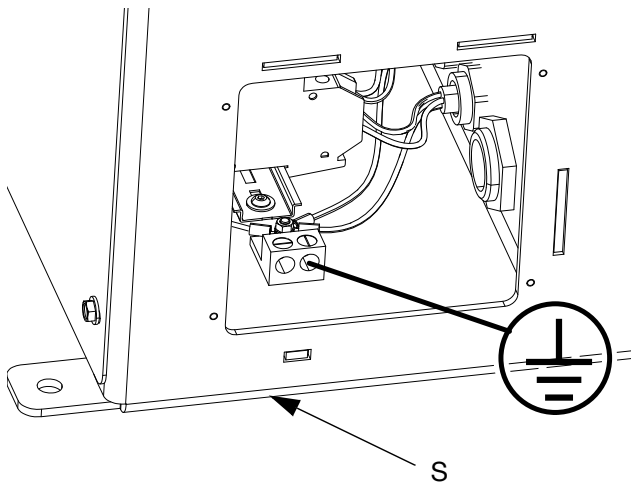

FIG. 8: Attach Ground Wire
3. Insert the power cord through the cord grip (strain relief) 3/4-14 NPT male, cable range 0.35-0.63 in. (8.9-16 mm), and into the EVR Frame (S).
4. Attach the ground wire to the ground terminal inside the EVR Frame (S) as shown in FIG. 8.